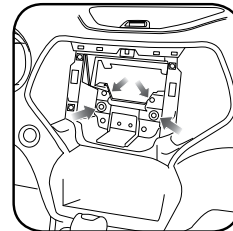

Fig. 1.5
Remove the two (2) 7mm bolts visible from the front. Then, using a short screwdriver, remove the 2 screws located behind the metal bracket. (Fig. 1.5)